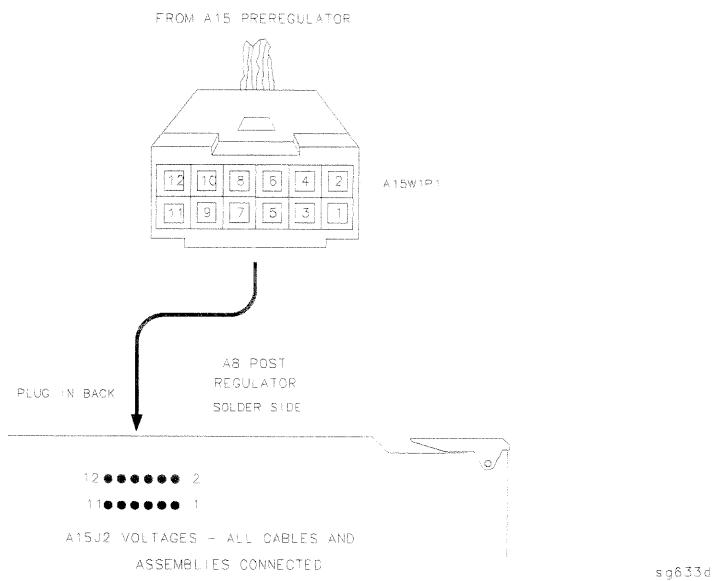

Figure 5-6. A15W1 Plug Detail
Verify that the A15 preregulator is supplying the correct voltages to the A8 post regulator. Use a voltmeter with a small probe to measure the output voltages of A15W1's plug. Refer to Table 5-2 and Figure 5-6.
2. Measure the voltages at A15W1P1 (see Figure 5-6) with a voltmeter having a small probe.